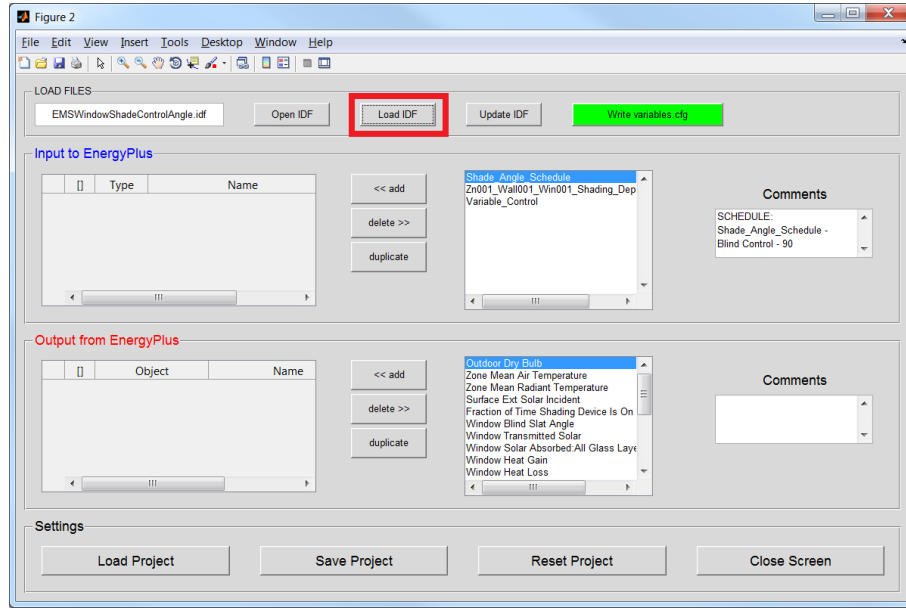

Figure 7: Variable configuration window.
2. In the Control Tab, push the **Variable** button to open the Variable Configuration Window (Figure 7).